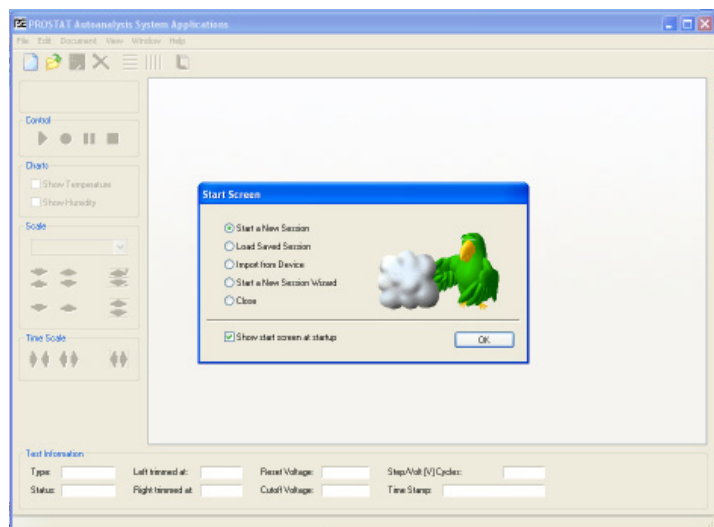
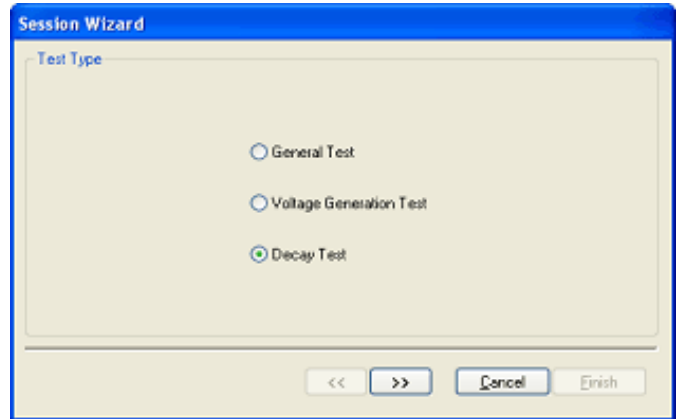

Figure 9: Autoanalysis Software Start Screen with Agent Character "Peedy"
Figure 10: Use the first Session Wizard Window to Designate the Type Test
6. Select **“Start a New Session Wizard”** and Click **OK** as in Figure 9, will open Session Wizard Test Type screen (Figure 10). Select Test Type and provide the requested information to be included in test reports. See The Session Wizard section below for further details.
The Opening Screen (Figure 10) is used to designate the type of test to be conducted. In the illustration at right, decay testing is the intent of the test.